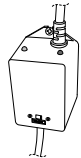

FIGURE 8
13. **System Test 1:** Assure there is no water dripping from the seal compression nut (5). If water is visible, STOP and tighten the compression nut (5) using a pair of channel lock pliers to a maximum of 1/4 turn. If that does not fix the leak, then repeat quartz tube maintenance process from step 1 through step 12. Make sure there is no water leaking before proceeding to step 14.
15. Reconnect the UV bulb socket (7) to the power cord socket (11) make sure you use the latex glove provided when handling the UV bulb.
16. Slide the new UV bulb (3) back inside the quartz tube.
17. Reinstall the black bulb boot (6) back over the quartz seal compression nut (5).
18. Reinstall the enclosure cover (9) with gasket (8) and secure with the screws.
20. Once power is activated you can check the ballast (12), Figure 8, to see if the CLEARRAY is functioning; it has two LED indicator lights the green indicating incoming power flow and the red indicating the system is properly working.